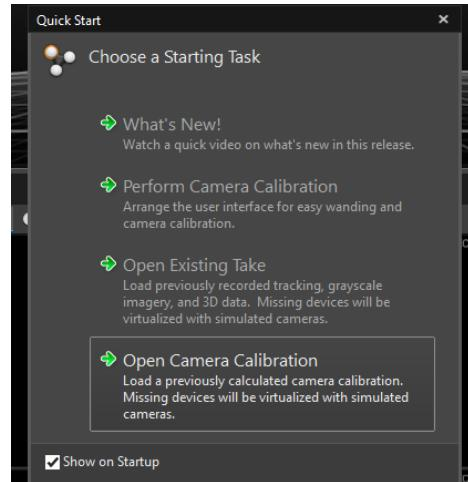

Figure 2: Quick Start menu in Motive 2.0.1
1. Open Motive. In the **Quick Start** menu (Figure 2), select the calibration file (*.cal) that was created when calibrating the cameras. If the Quick Start menu does not open, the calibration file can be loaded from the **File** menu as well. After the file loads, also load the Profile (**File > Load Profile**) saved when calibrating cameras. This will ensure no rigid bodies are currently in the workspace.